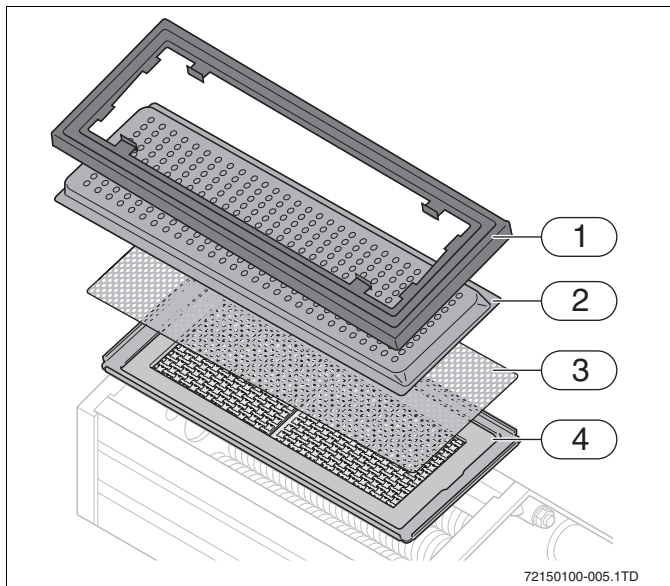

Fig. 5
- ▶ Remove burner gasket (→ fig. 5, [1]).
- ▶ Remove gas-air distribution plate (→ fig. 5, [2]).
- ▶ If present, remove old diffuser plate (→ fig. 5, [3]).